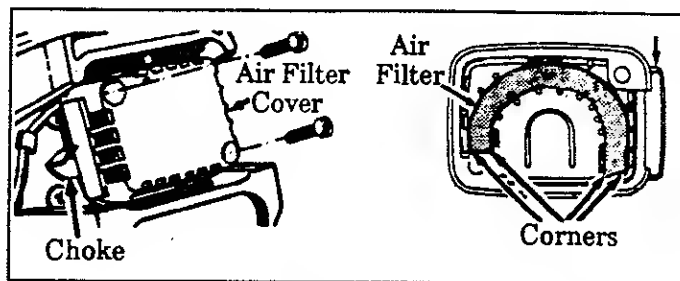

Figure 27
- a. Loosen the two Screws on the Air Filter Cover enough to remove the Cover from the Engine. Figure 27.
- b. Remove the Air Filter from the Cover. Figure 27.
- e. Reinstall the Air Filter Cover, making sure the choke Exit Slot (Figure 27) is positioned over the Choke Lever.